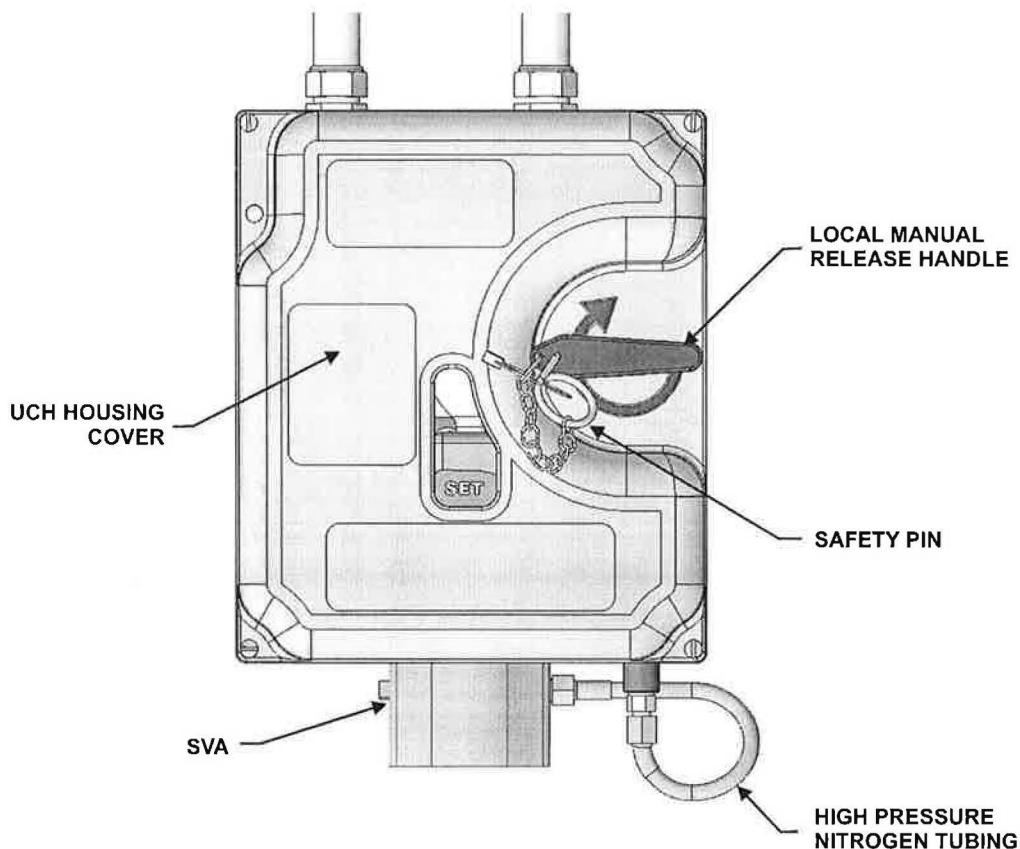

Figure 4-90. UCH Control System, Cover Attached
2. Locate the cover of the UCH Control System. Ensure that the local manual handle is set and that the Safety Pin is inserted (see Figure 4-90). The handle should be locked in the set position. If the handle can turn, adjust until the pin can be inserted all the way through the handle into the body of the cover.